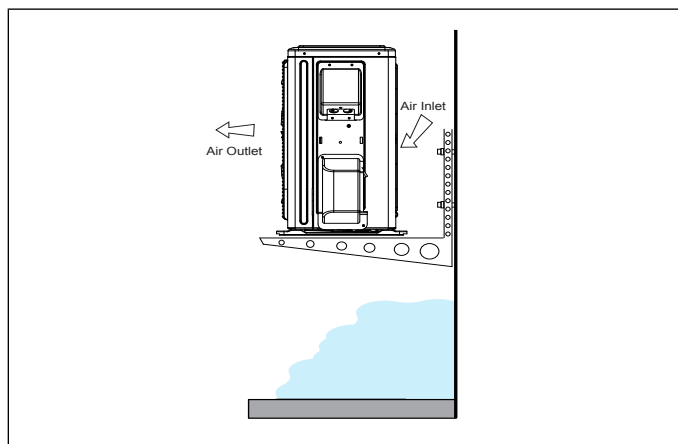

Figure 16. Outdoor Unit on Brackets above Snow Line
- The unit base should be elevated above the depth of average snows as illustrated in “Figure 16. Outdoor Unit on Brackets above Snow Line”